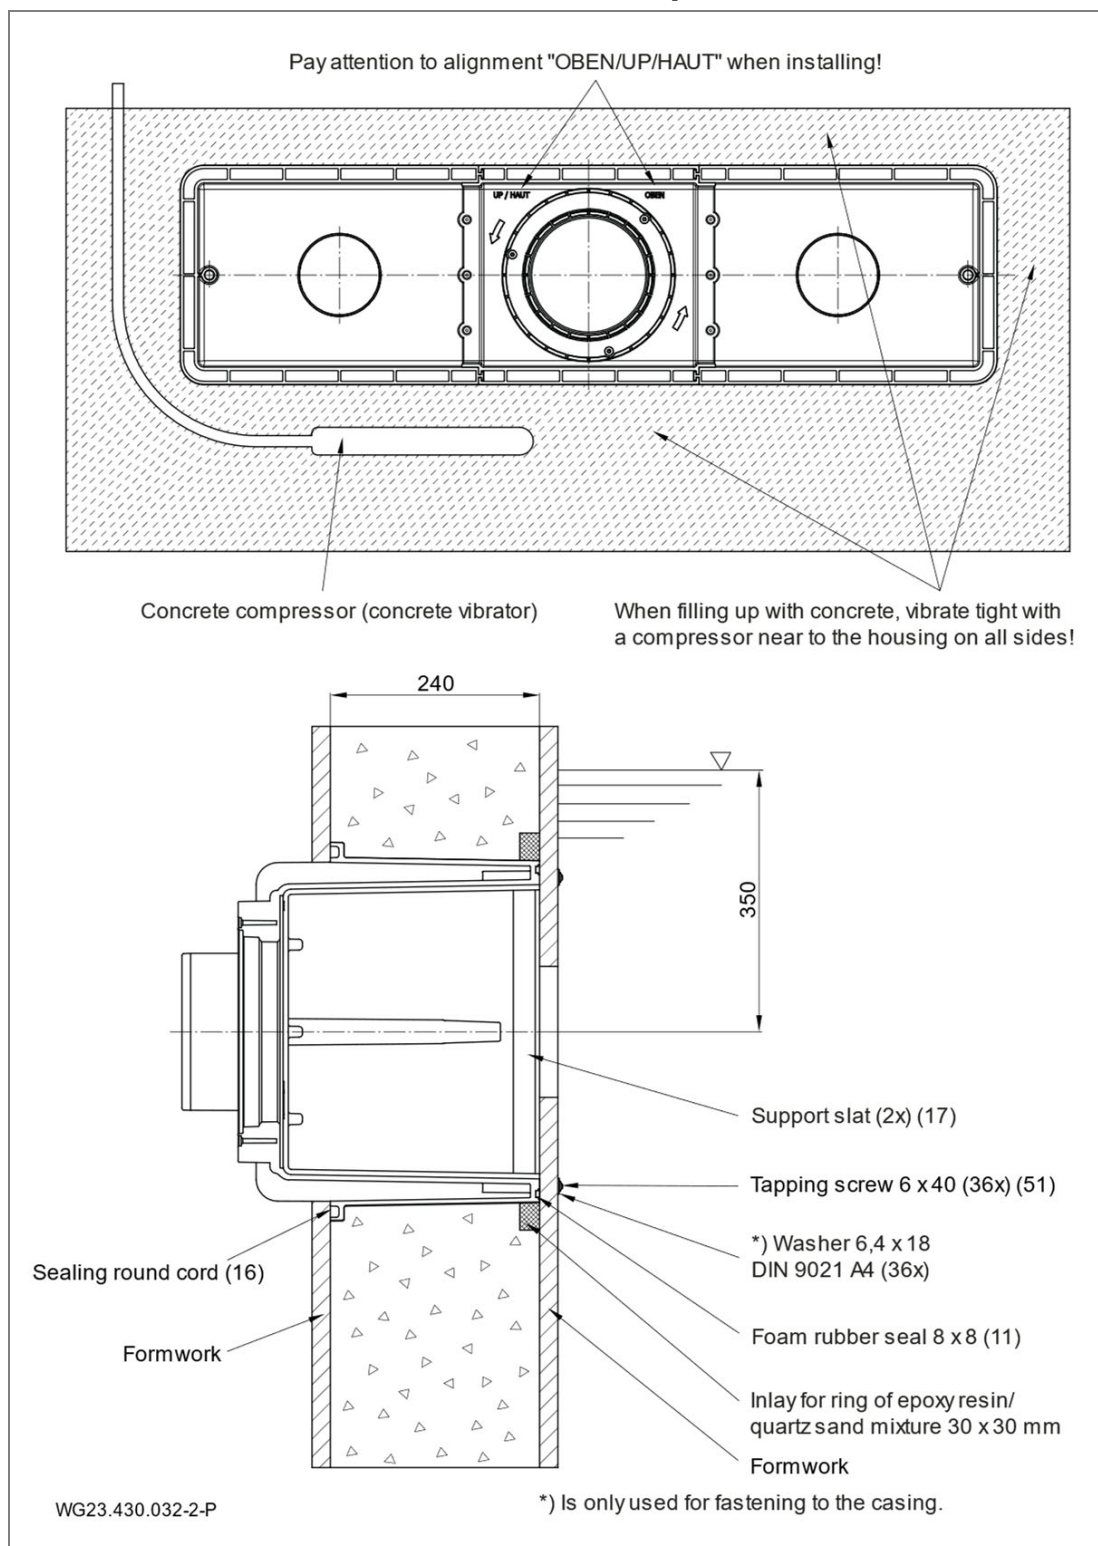

Fig. 5
It is recommended to lay a surrounding ring of epoxy resin/quartz sand at the pool-side outside wall of the housing (1) as a seal to the concrete wall. See "Fig. 5" on page 21